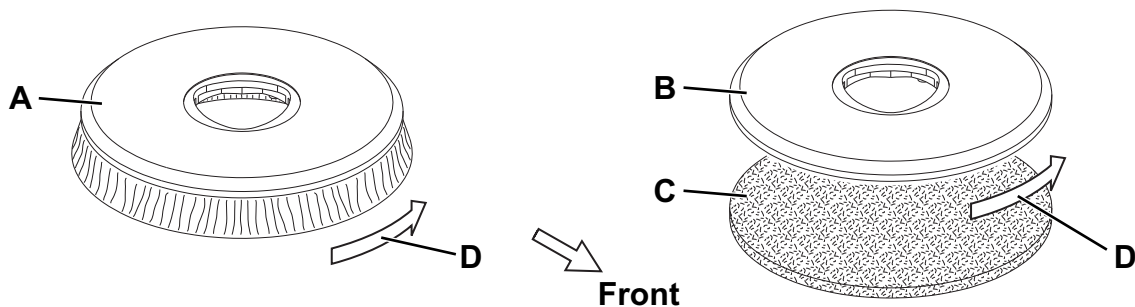

Figure 1
Install either the brush (A, Fig. 1) or the pad-holder (B and C) according to the type of floor to be cleaned.
1. Lift the brush/pad-holder deck (12) by prying the handlebar (1).
2. Place the brush (A, Fig. 1) or the pad-holder (B and C) under the deck.
3. Lower the deck (12) by using the handlebar (1).
4. Turn the knob (32) on one of the indicated programs.
5. Press the enabling push-button (39) together with the brush levers (40) to engage the brush/pad-holder.
6. Switch off the machine by turning the knob (32) to "0".
7. Slightly lift the machine deck by prying the handlebar (1), then manually release the brush/pad-holder from the hub, by turning it abruptly in its normal rotation direction (D, Fig. 1).